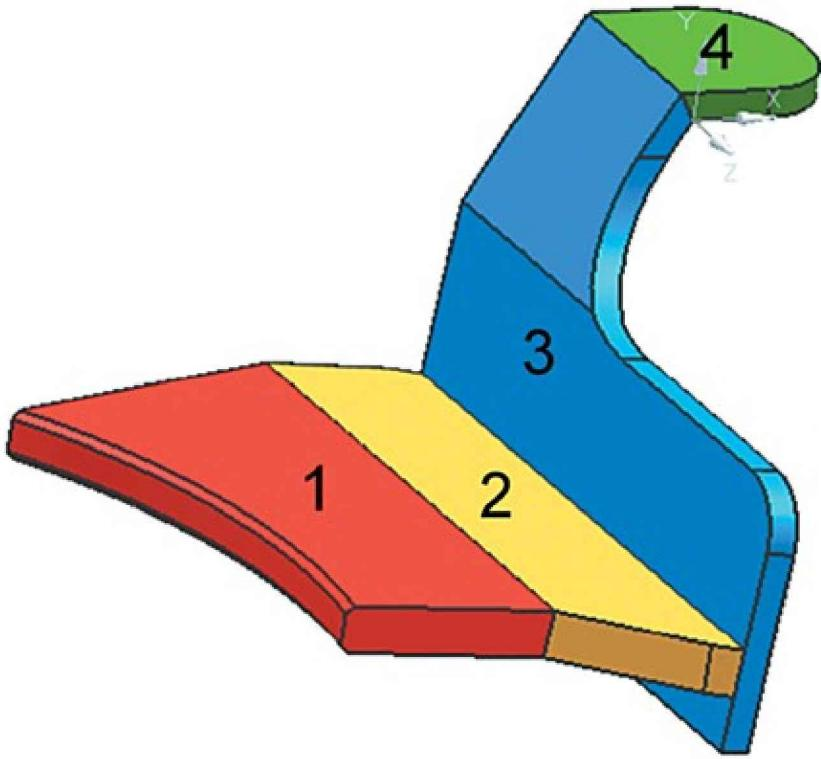

Figure 2.19. The result of model geometry simplification using Model Preparation toolbar commands
- Click **OK**. The result is shown in Figure 2.19.
The usage of **Midsurface** toolbar commands can be demonstrated on the model created in Example 2.1 (Figure 2.19).